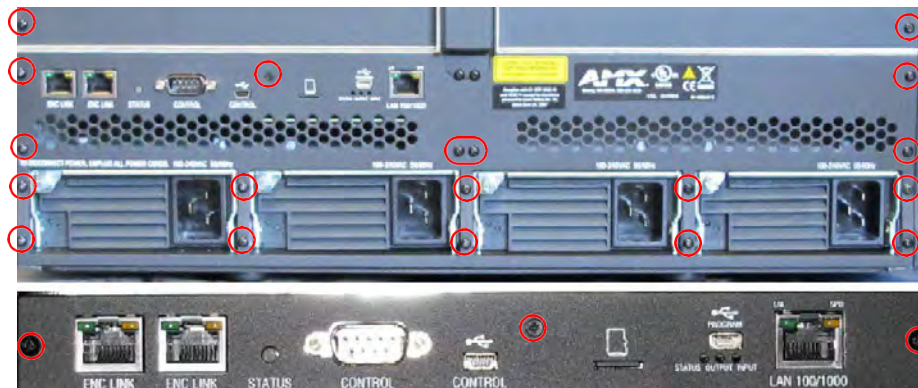

FIG. 162 Remove screws that hold faceplate
3. Remove the screws from CPU faceplate: seventeen screws in the DGX 64, three screws in DGX 8/16/32 (FIG. 162):